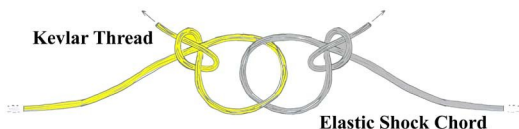

Figure 8
- **Step 12** Pull the Kevlar thread back through the tube and out the top end. As shown in Figure 8, tie a slip knot in the free end of the thread. Run one end of the elastic shock chord through the loop and tie a slip knot in the elastic. Pull these knots tight against each other, and coat the knot with a layer of thinned yellow glue to lock the knot. Allow to dry, then attach the other snap link to the free end of the elastic chord.